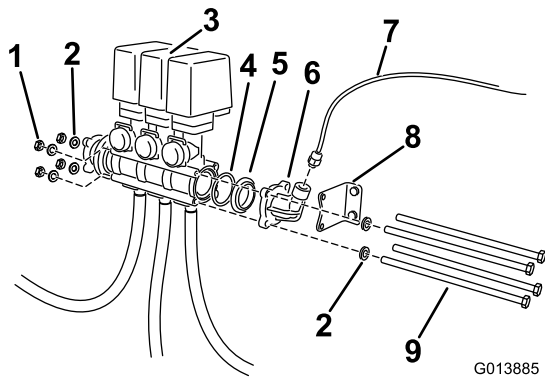

Figure 4
2. Loosen the long bolts and fasteners securing the valve assembly (Figure 4). Remove and retain all fasteners. Move the valve assembly to the right.
3. Remove elbow adapter and gasket (Figure 4). Locate the O-ring seated in the existing valve body. Retain all parts. Move the bracket away from the existing valve assembly.